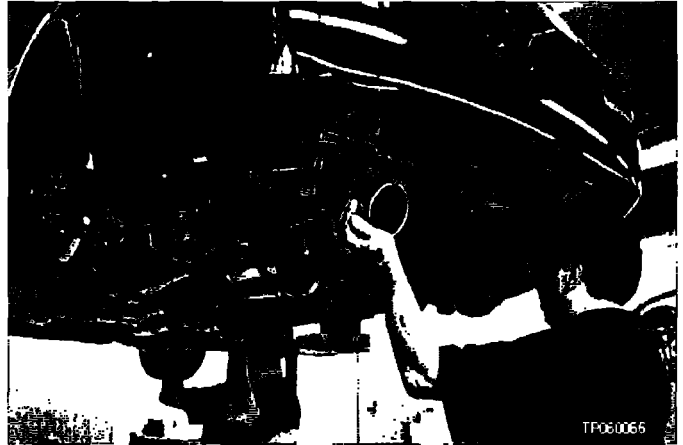

Figure 14
17. Carefully remove the exhaust center tube/rear muffler and place it in a safe location (see Figure 14).